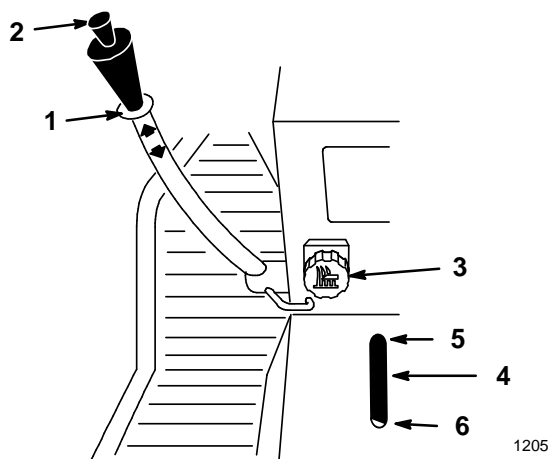

Figure 19
The attachment lift lever (Fig. 19) is used to raise and lower various attachments.
The Dial-A-Height control (Fig. 19) is used to limit the downward travel of the attachment. The Dial-A-Height knob is rotated to change the location of this stop, up or down.
1. Raise the attachment lift lever: Refer to Raising Attachments. In the raised position the Dial-A-Height knob (Fig. 19) can be rotated to change the stop location. Turn clockwise to raise and counterclockwise to lower the height of the attachment.
2. The Dial-A-Height indicator (Fig. 19) will show the change, high to low, in attachment lift height as adjustment is made.